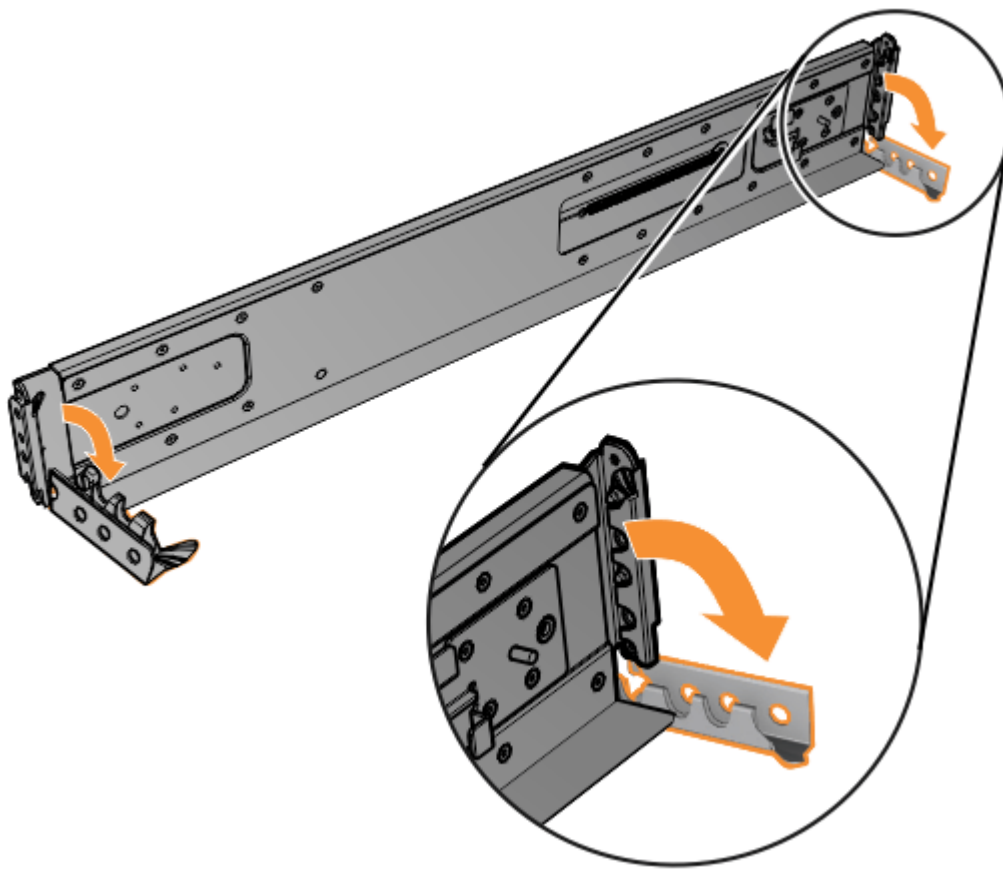

Figure 14. Opening the hinge brackets
- At each end of the rail, grasp the tab and pull *firmly* to open the hinge bracket, as shown in Figure 14 on page 18.